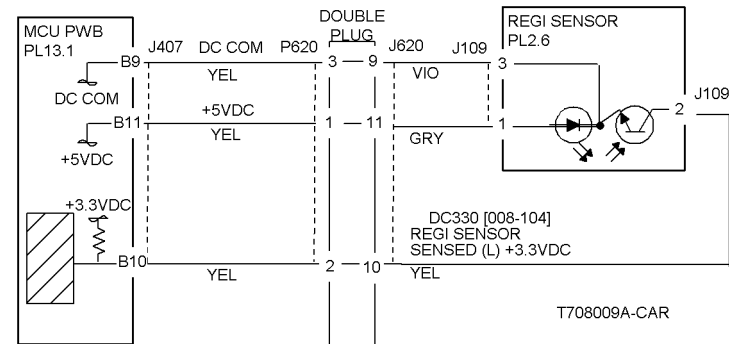

Figure 1 Registration Sensor CD
- Ensure that the connectors shown in circuit diagrams (Figure 1, Figure 2, Figure 3) are securely connected and that the wires are not damaged.